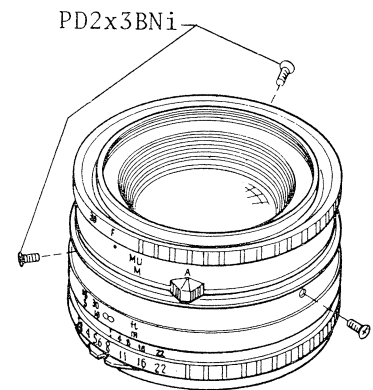

Fig.27
2. Loosen three PD2x3BNi set screws as shown in Fig 27 and tighten one of them again.